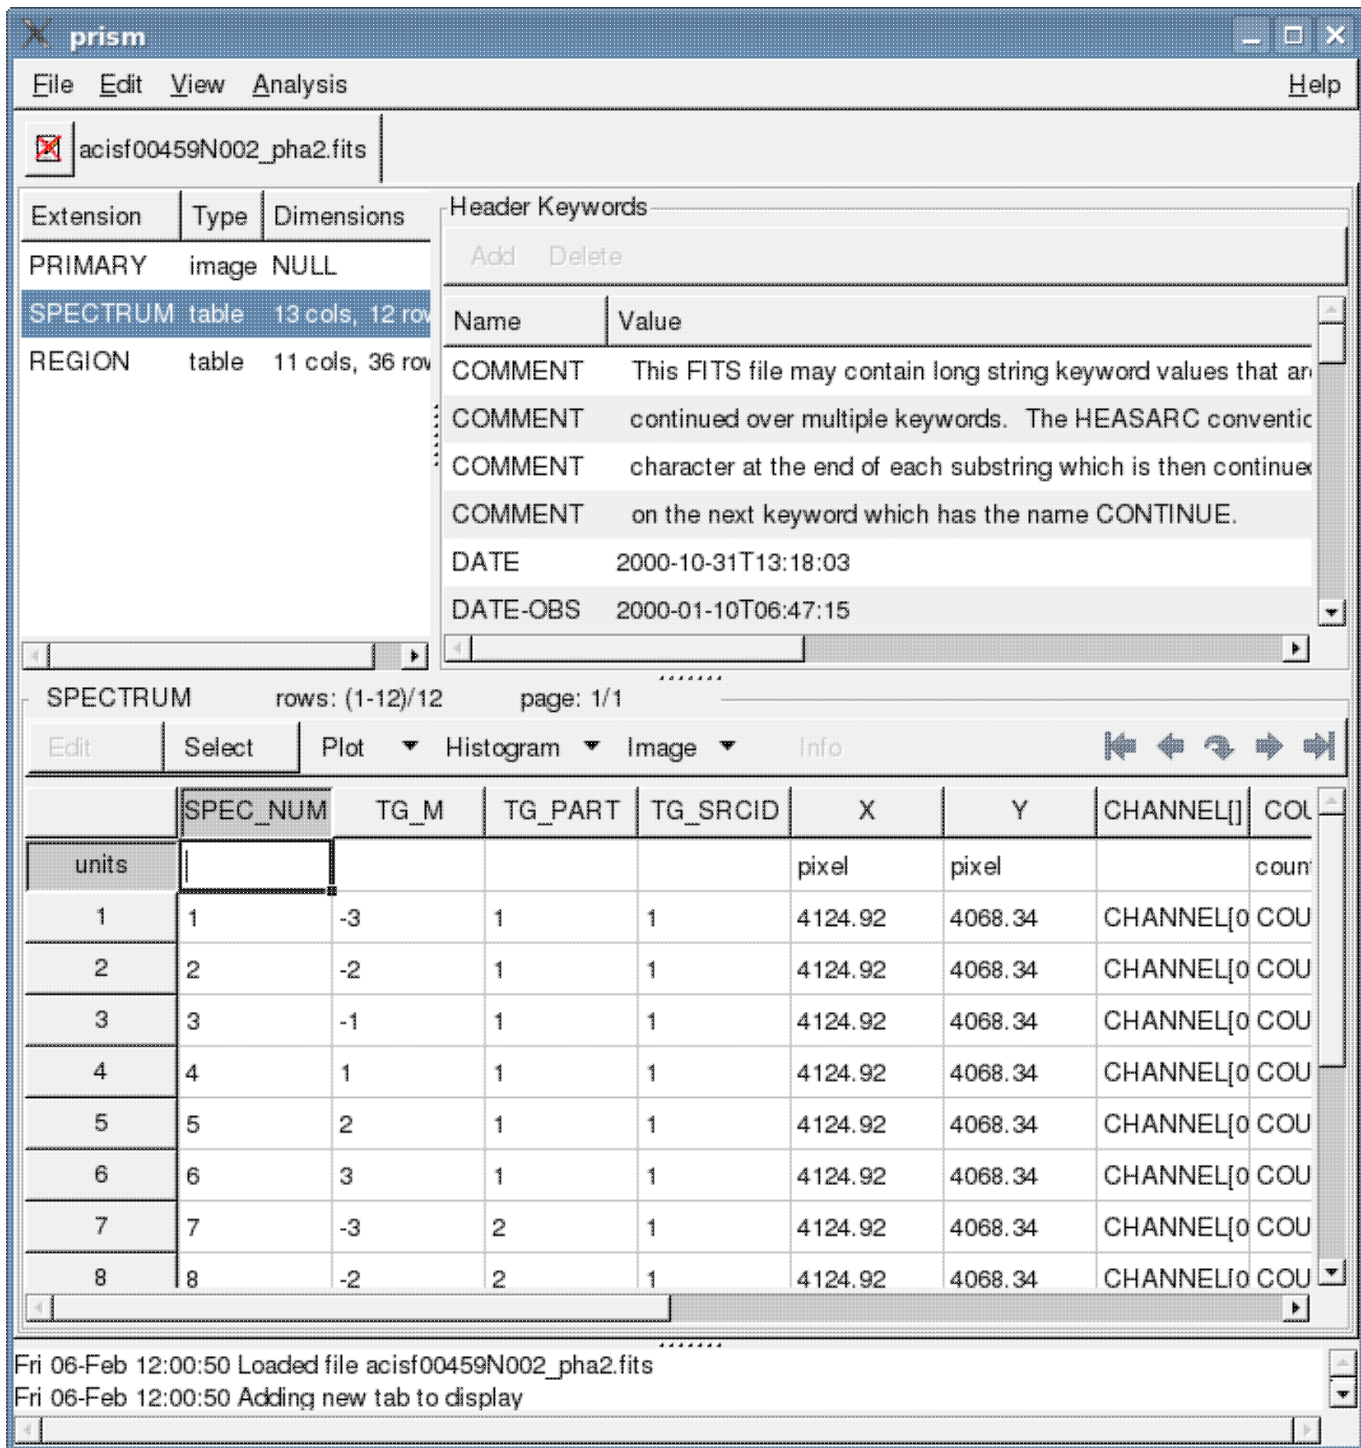

Figure 1: ACIS-S/HETG dataset in prism
- ◆ Figure 1: ACIS-S/HETG dataset in prism
The `tg_m` column indicates the order of the observation (+/- 1, +/- 2, +/- 3) and the `tg_part` column indicates the grating (1 = HEG, 2 = MEG, 3 = LEG). The twelve rows (all +/- orders for HEG and MEG) for the HETG observation are shown in Figure 1.